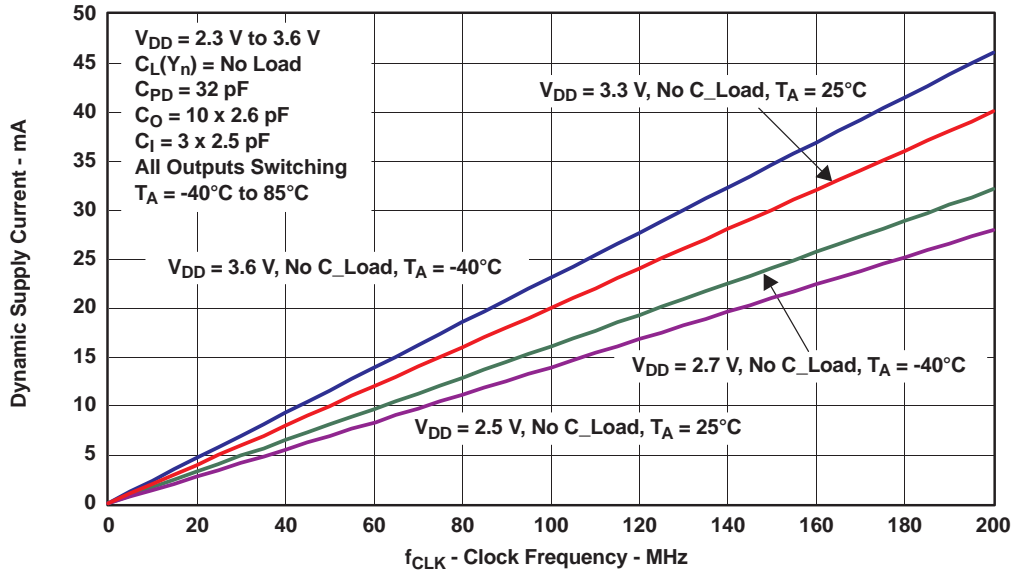

Figure 6.
(1) All typical values are with respect to nominal V_{DD}.
(2) For dynamic I_{DD} over Frequency see Figure 6.
(3) This is the formula for the power dissipation calculation.